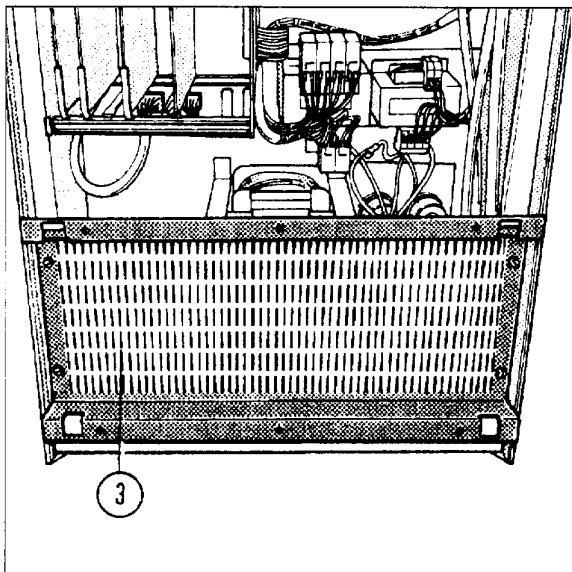

Fig. 8
- Remove the (3/Fig.8) metal grate.